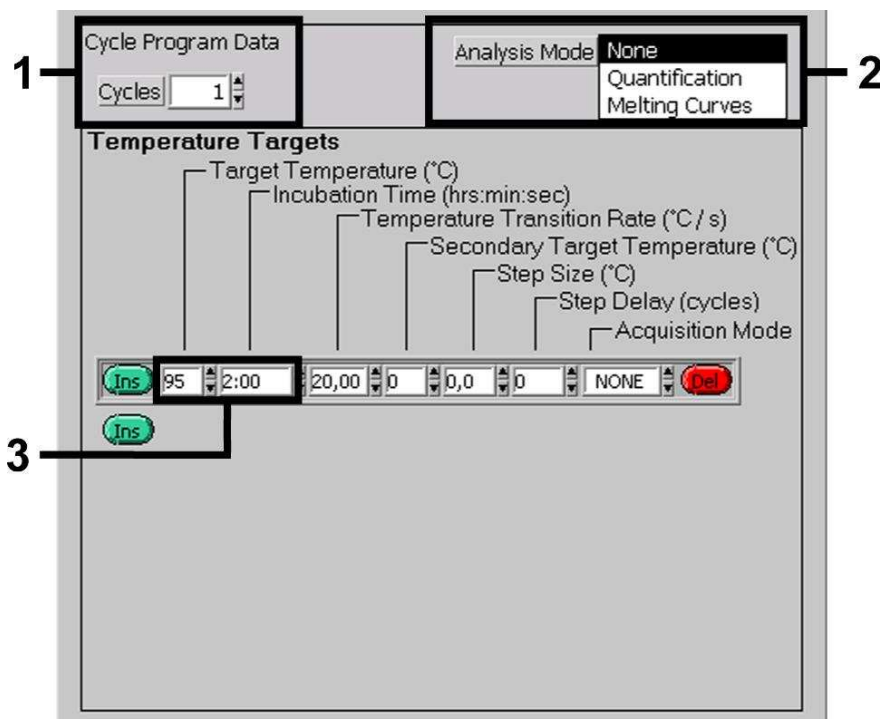

Fig. 3: Initial Activation of the Hot Start Enzyme.
For the detection of *M. pneumoniae* DNA, create a temperature profile on your *LightCycler*[®] 1.1/1.2/1.5 Instrument according to the following three steps (see Fig. 3 - 5).
- A. Initial Activation of the Hot Start Enzyme Fig. 3